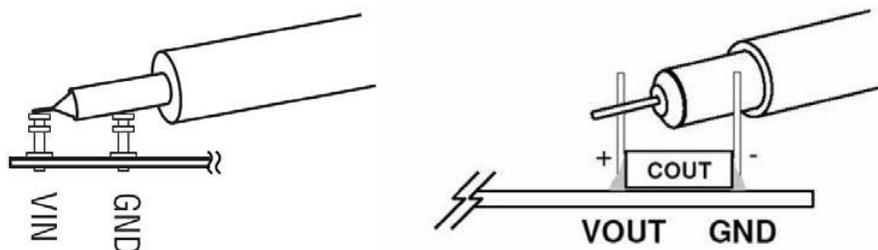

Figure 2. Measuring Input or Output Ripple Across Terminals or Directly Across Bulk Capacitor
Demonstration circuit DC1928A is easy to set up to evaluate the performance of the LTC3867EUF. Please refer to Figure 2 for proper measurement equipment setup and follow the procedure below:
**Note:** When measuring the input or output voltage ripple, care must be taken to avoid a long ground lead on the oscilloscope probe. Measure the input or output voltage ripple by touching the probe tip directly across the VIN or VOUT and GND terminals. See Figure 2 for proper scope probe technique.